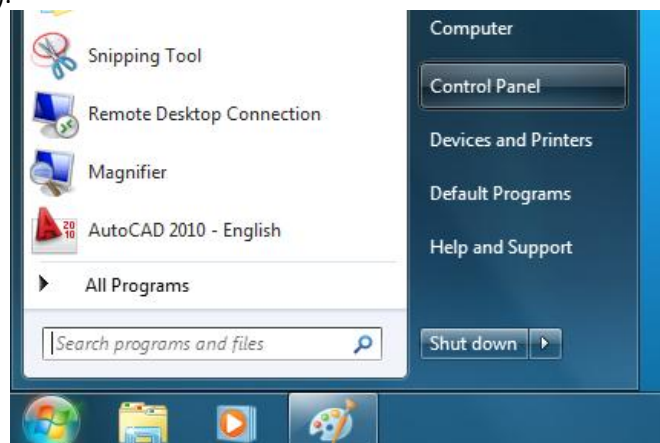

Fig. 2-22
- ◆ Windows should then display a message indicating that the installation was successful (Fig.2-22). Click "Finish" to complete the installation for the first port of the device.